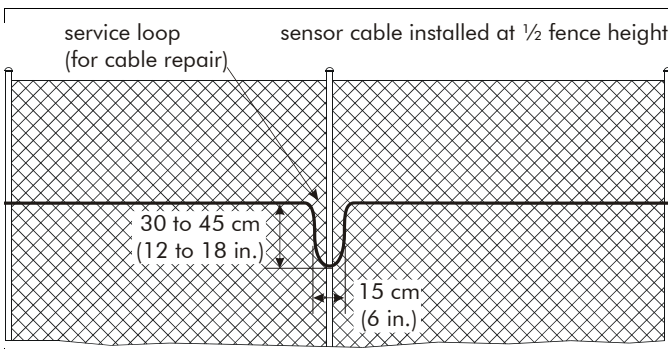

Figure 5 Service loop
- Senstar recommends that you create a 30 to 45 cm (12 to 18 in.) U-shaped service loop, located at a fence post, every 15 m (app.) for the length of the zone (See Figure 5).